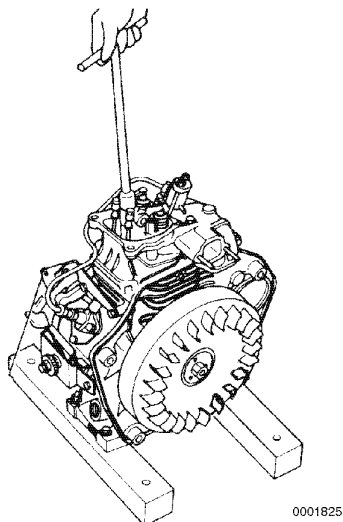

Figure 8-2
3. Remove the rocker arm shaft assembly (**Figure 8-2**), by first removing the two bolts that secure the rocker arm shaft assembly to the cylinder head.